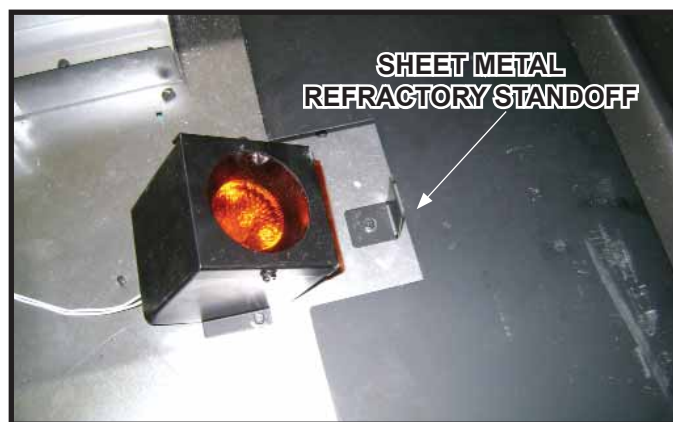

Figure 11.13 Accent Light Bulb Installation Completed
1. Remove the screw that secures the two bottom sheet metal refractory standoffs that are installed around the left and right accent light assemblies. See Figure 11.13.
4. Reinstall the two bottom sheet metal refractory standoffs with one screw each. See Figure 11.13.